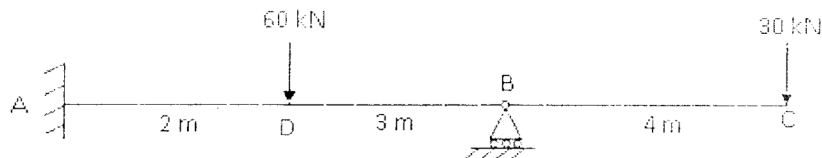

Figure: 3
6. Draw Bending moment diagram for the propped cantilever beam shown in figure 3. [10]